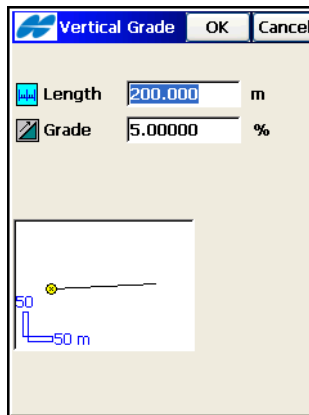

Figure 7-19. Add Vertical Grade
2. On the **Vertical Grade** screen (Figure 7-19), enter the length of the vertical grade element and the grade percentage of the element. If the grade is falling, the value should be set to negative.